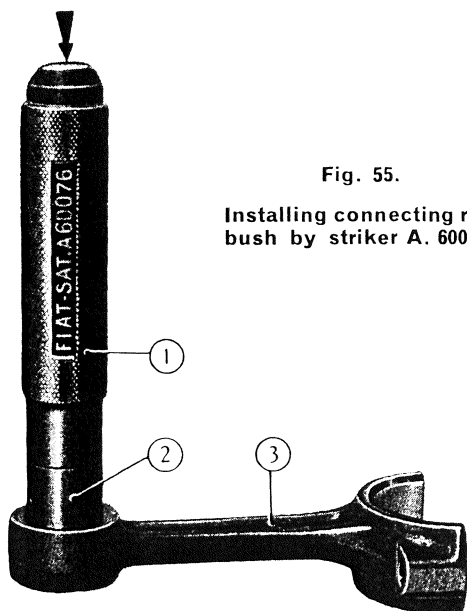

Fig. 55.
- With the same tool install new bush (fig. 55).